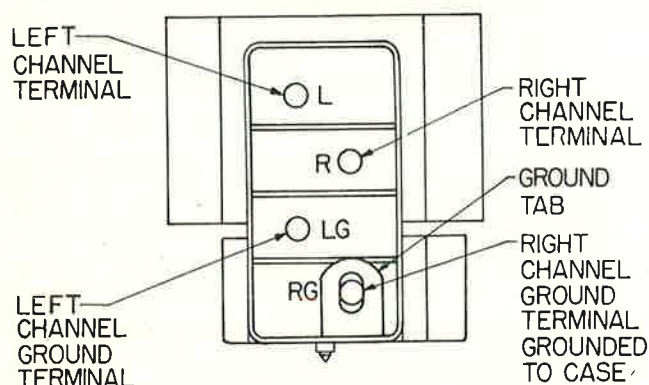

FIGURE 2
**Connections:** The Model M44C Cartridge utilizes a 4-terminal arrangement for connections having a separate ground terminal for each channel. (See Figure 2)
If hum is experienced when cartridge is installed in a metal head shell, removal of the ground tab from the right ground terminal will probably correct the condition (See Figure 2).